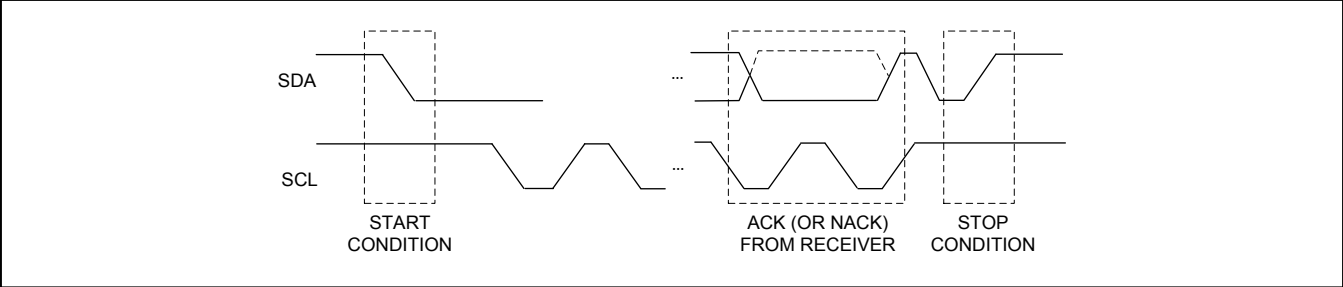

Figure 6. START, STOP, and ACK Signals
**START Condition:** Signal generated by the master to indicate the beginning of a data transfer on the bus. The master generates a START condition by pulling SDA from high to low while SCL is high (see Figure 6). A “repeated” START is sometimes used at the end of a data transfer (instead of a STOP) to indicate that the master will perform another operation.
**STOP Condition:** Signal generated by the master to indicate the end of a data transfer on the bus. The master generates a STOP condition by transitioning SDA from low to high while SCL is high (see Figure 6). After the STOP is issued, the master releases the bus to its idle state.
**Acknowledge (ACK):** When a device (either master or slave) is acting as a receiver, it must generate an acknowledge (ACK) on the SDA line after receiving every byte of data. The receiving device performs an ACK by pulling the SDA line low for an entire SCL period (see Figure 6). During the ACK clock cycle, the transmitting device must release SDA. A variation on the ACK signal is the “not acknowledge” (NACK). When the master device is acting as a receiver, it uses a NACK instead of an ACK after the last data byte to indicate that it is finished receiving data. The master indicates a NACK by leaving the SDA line high during the ACK clock cycle.